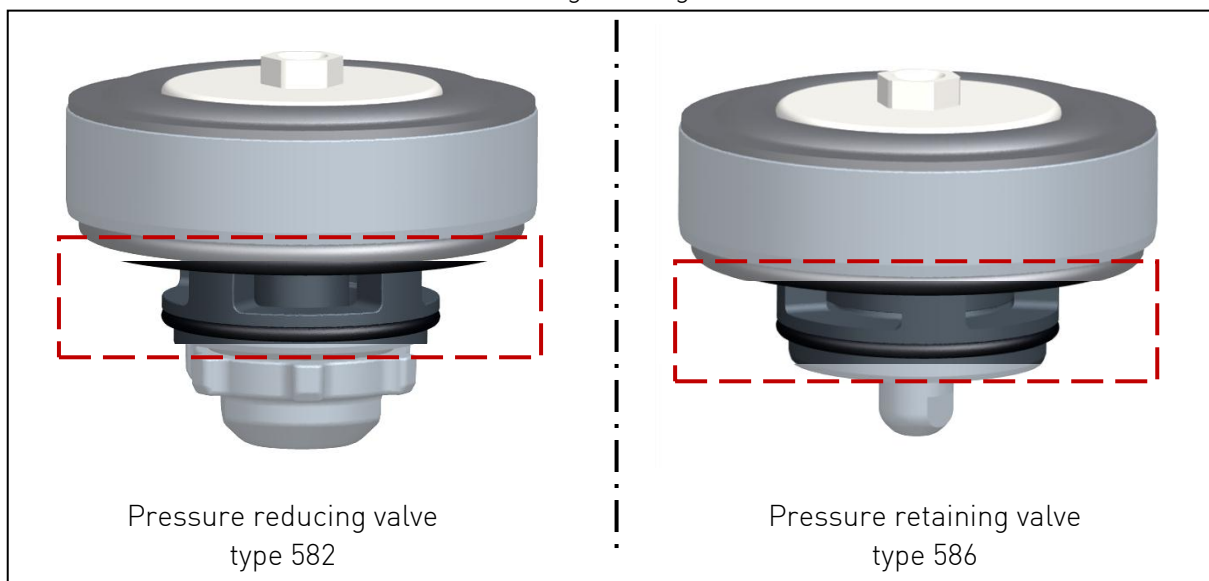

Fig. 17
- Clean the drill holes of the inner housing, see Fig. 17